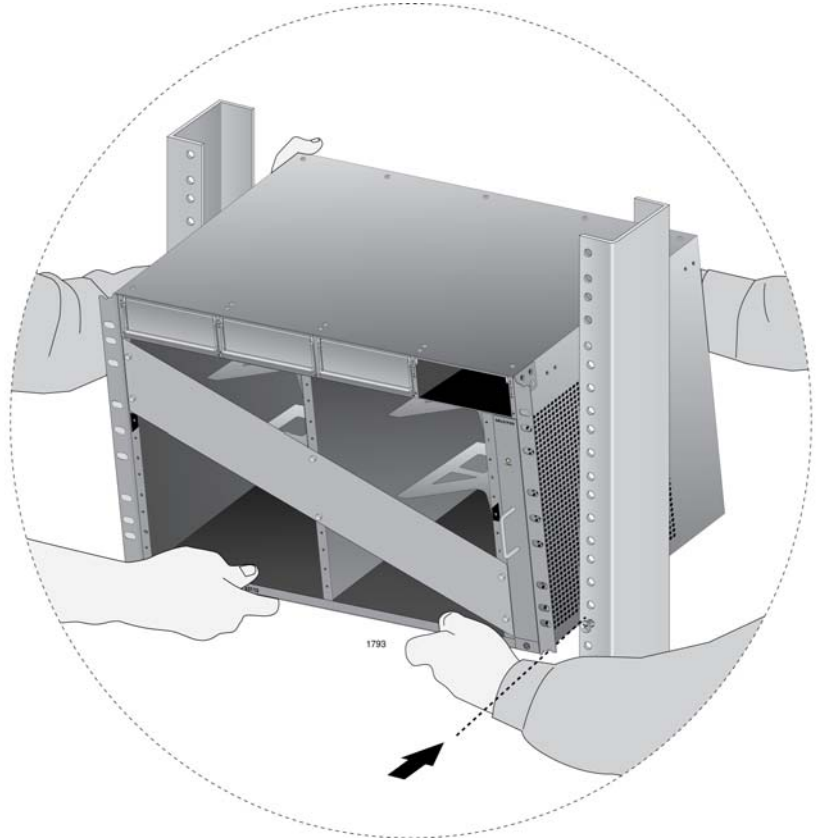

Figure 40. Lifting the AT-SBx3112 Chassis into the Equipment Rack
2. Do not mount any other equipment within 152.4 mm (6") above this space during installation. This additional vertical space is temporary and allows you enough room to lift and tilt the chassis into its position in the equipment rack without hitting other equipment, as shown in Figure 40 on page 87. You may use this additional space for other network equipment after the chassis is installed.
1. While facing the front of the chassis, tilt the top of the chassis toward you, as shown in Figure 40 on page 87.